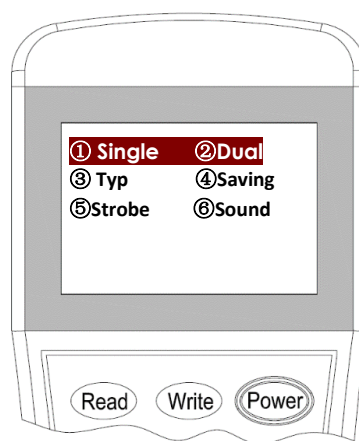

Figure 9
3. Input the "**1**" for Single Address mode or "**2**" for Dual Address mode then press "**Write**" to change the setting into the desire mode (Figure 9).